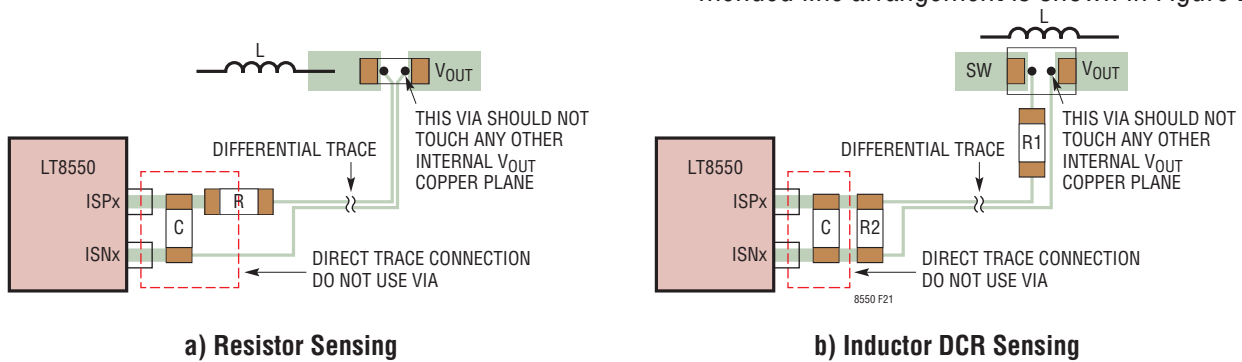

Figure 21. Current Sensing PCB Design
- Of all the small signal traces, current sensing traces are most sensitive to noise. The current sensing traces should be routed differentially with minimum spacing to minimize the chance of picking-up noise, as shown in Figure 21. In addition, the filter resistors and capacitors for current sensing traces should be placed as close to the ISPx/ISNx pins as possible. If the DCR sensing is used with an R/C network, the
Place the vias that connect the ISPx/ISNx lines directly at the terminals of the current sensing resistors or the inductors as shown in Figure 21.